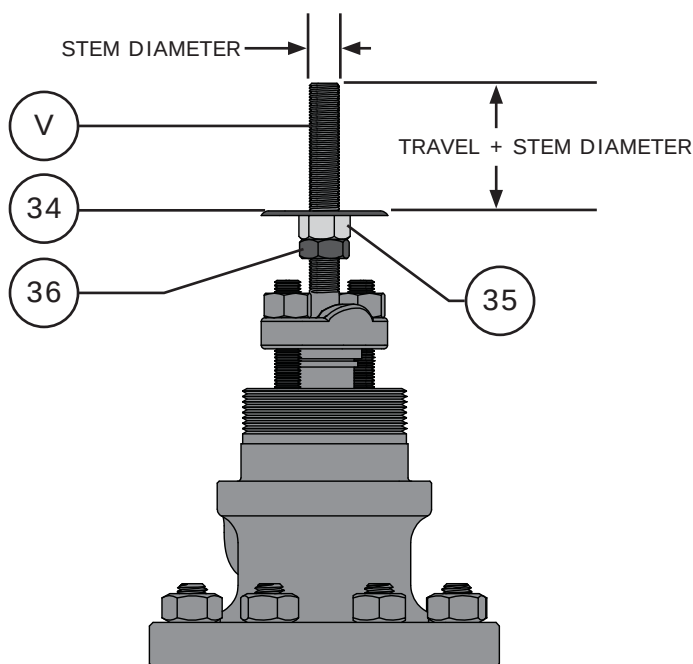

Figure 35 One-Piece Connecting Block Installation
- 3 Measure the distance of travel plus the length of the diameter of the valve stem down from the top of the valve stem (Key V) and mark that position with a soft felt marker. Thread the jam nut (Key 36) and hex nut (Key 35) onto the valve stem so that they are past the distance marked by felt. Refer to Figure 35.